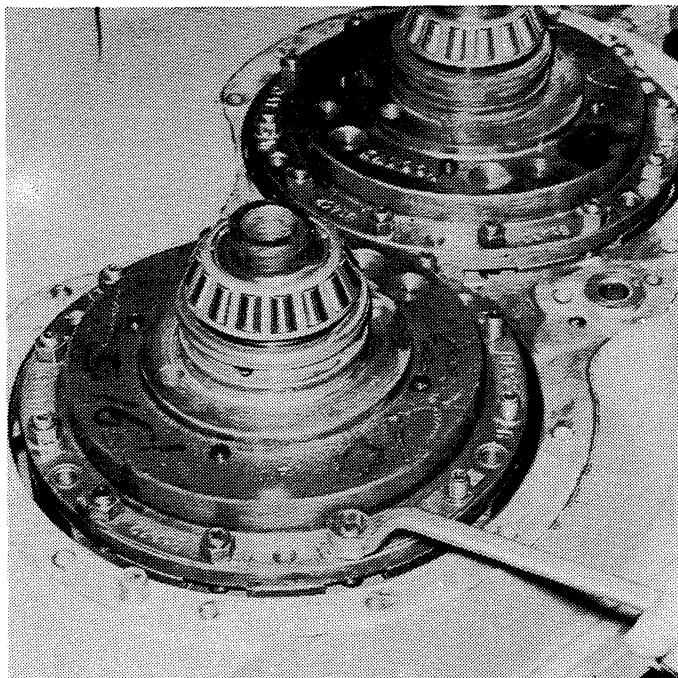

Figure 6-10. Removing or Installing Screws on Clutch Cylinder.
1. Bend the tabs down on screw locks (Figure 12-2, 6) that lock the nut (7) on the clutch cylinder and remove the twelve nuts and six screw locks. See Figure 6-10.